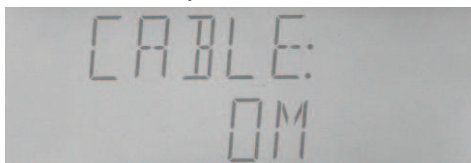

Figure 4-18 Cable length setup
- a) Select "CABLE" through 【◀】 or 【▶】 key, as shown in Figure4-18.